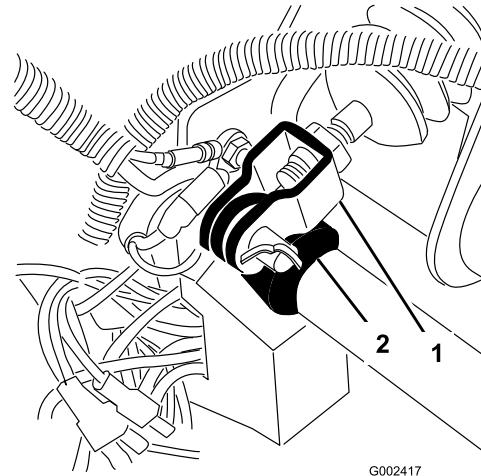

Figure 54
1. Remove the cotter pin and clevis pin securing the master cylinder yoke to the brake pedal pivot (Figure 54).
3. Loosen the jam nuts securing the yoke to the master cylinder shaft (Figure 54).